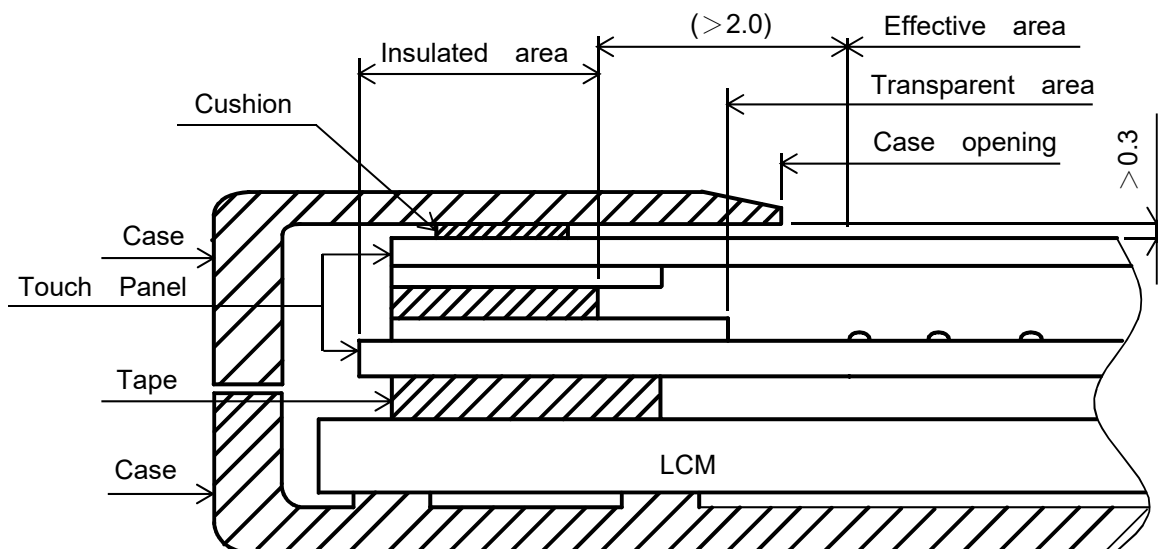

Fig 13.1
1) Please refer to Fig. 13.1 for housing the display with touch panel into applications. The Fig. 13.1 shows some points as below:
- 1) The lot mark is showing in Fig.13.1. First 4 digits are used to represent production lot, T represented made in Taiwan, and the last 6 digits are the serial number.